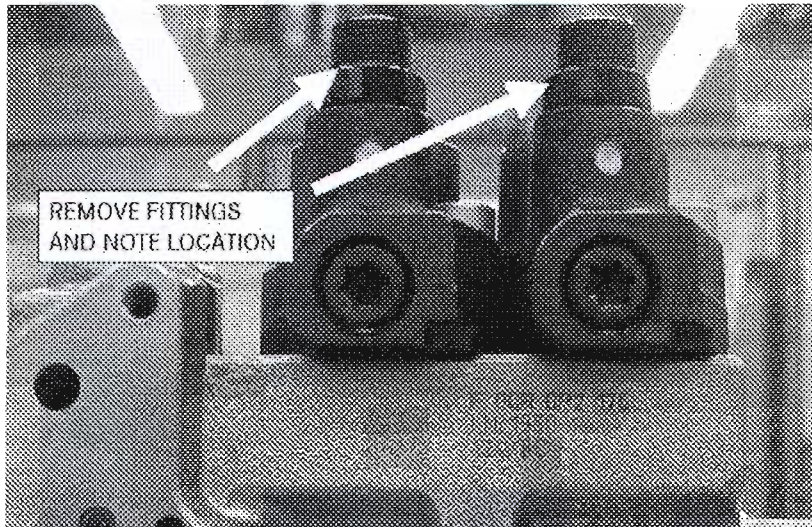

Figure 9 – High Pressure Pumping Element Fittings
10. Remove the two fittings from the top of the high pressure pumping elements, taking note of their locations. The fittings **MUST** be re-installed into their original locations. See Figure 9.